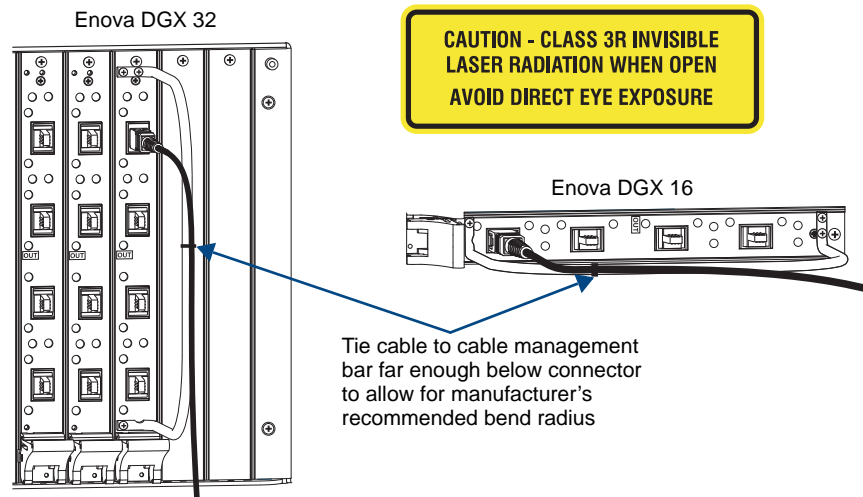

FIG. 49 Fasten cables onto input and output connectors (shown with cable management bar)
4. Insert the fiber cable connector into the input and output SC fiber receptacles (FIG. 49).